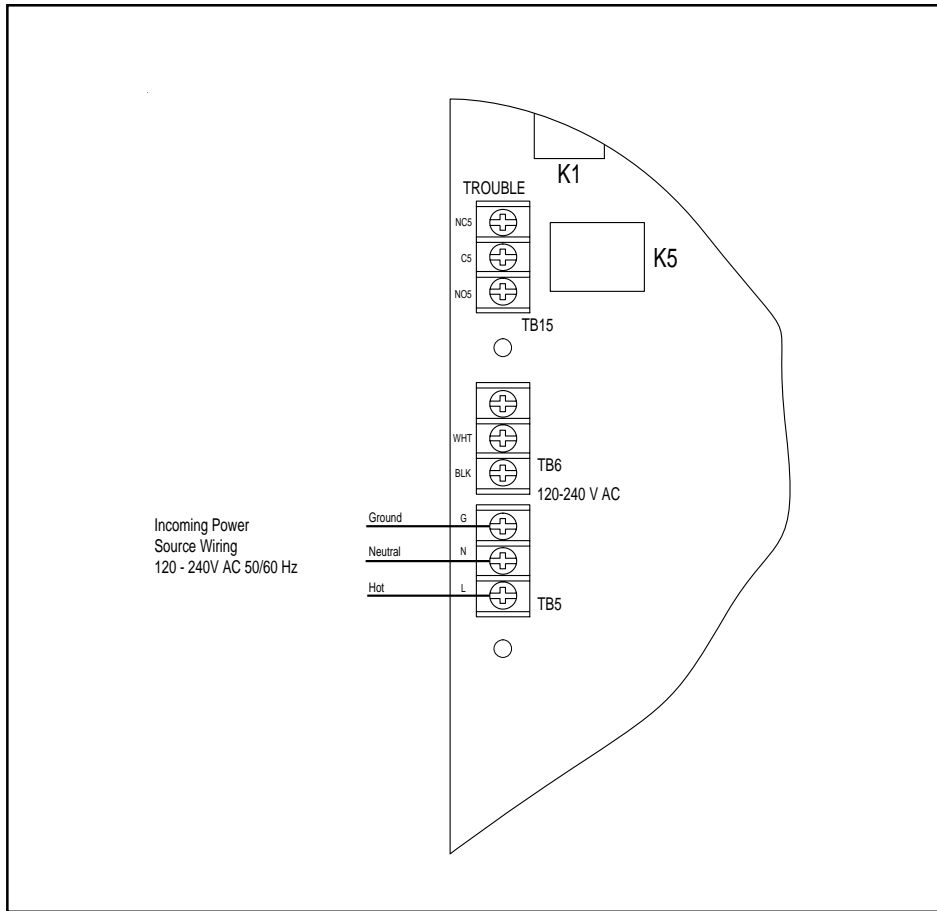

Figure 4. Installing AC Power
- Connect AC power and ground.** See Figure 4 and Appendix D or the panel label.